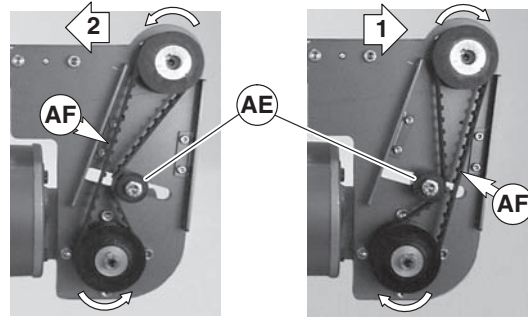

Figure 18
13. Depending on direction of conveyor belt travel (1 or 2 of Figure 18), position belt tensioner (AE) as shown. Tension belt to obtain 0.125" (3 mm) deflection for 1.0 lb (456 grams) of force at belt mid-point (AF). Tighten tensioner screw to 103 in-lb (12 Nm).
3. Depending on direction of conveyor belt travel (1 or 2 of Figure 18), position belt tensioner (AE) as shown. Tension belt to obtain 0.125" (3 mm) deflection for 1.0 lb (456 grams) of force at belt mid-point (AF). Tighten tensioner screw to 103 in-lb (12 Nm).
5. Depending on direction of conveyor belt travel (1 or 2 of Figure 18), position belt tensioner (AE) as shown. Tension belt to obtain 0.125" (3 mm) deflection for 1.0 lb (456 grams) of force at belt mid-point (AF). Tighten tensioner screw to 103 in-lb (12 Nm).